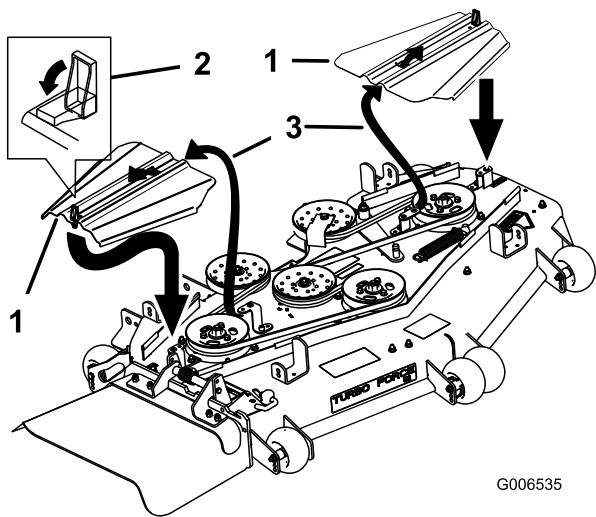

Figure 60
12. Install the belt covers by sliding the cover into the tab, install the bolts, and close the latches (Figure 60).